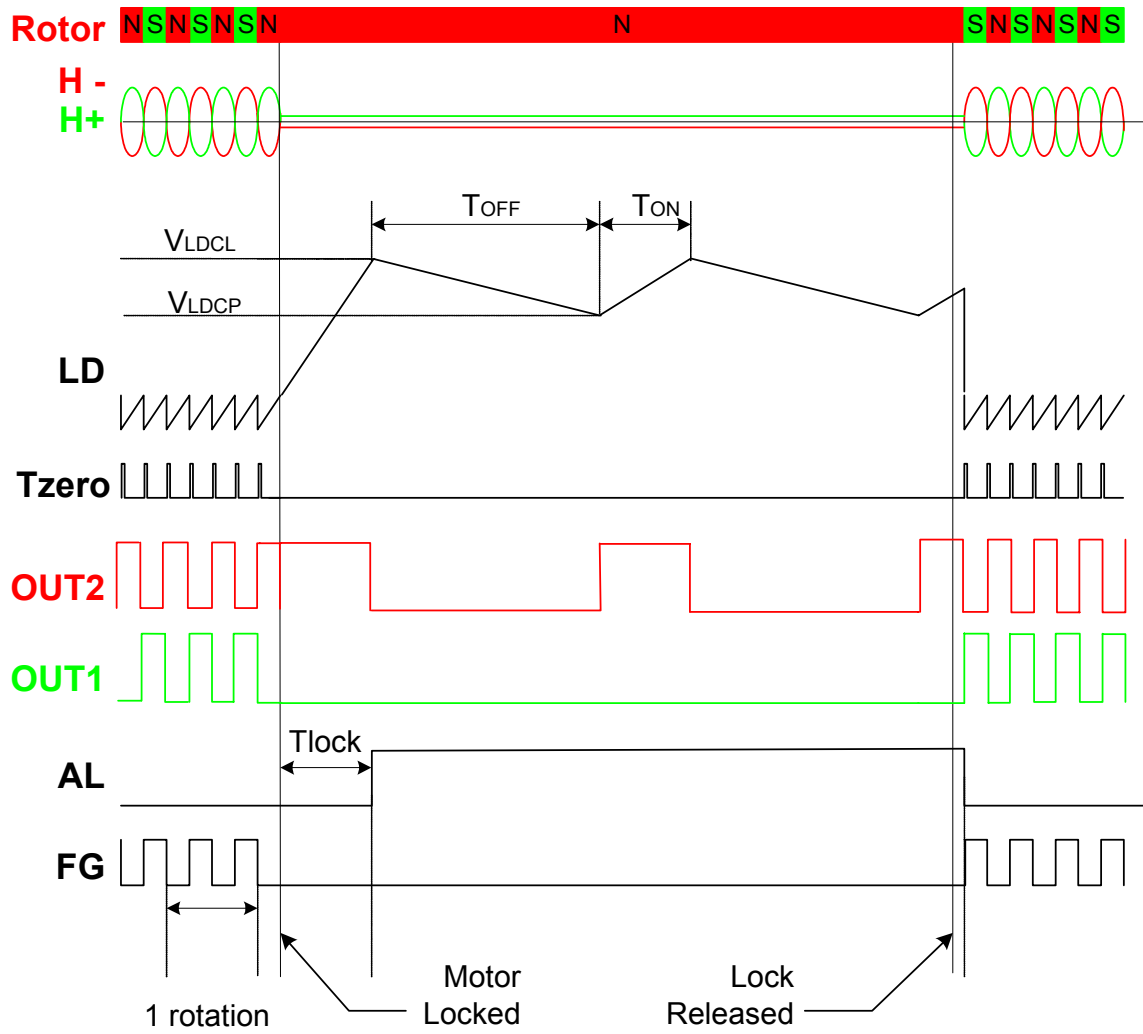

Figure 1. Overall Timing Chart
When the rotor is locked, there is no change in input signal of hall amplifier and thus a internal TZERO pulse is not observed. A capacitor(CLD) connected LD pin is continually charged by internal current source(ILDC) to internal threshold (VLDCL) resulting from no Tzero pulse. When the voltage, VCLD on LD pin, reaches VLDCL, high side output power TR is turned-off to protect motor during TOFF and the alarm output (AL) becomes floating high. When the VCLD reaches upper threshold, VLDCL, VCLD starts to decrease with internal current sink(ILDD) to the low threshold, VLDCP. At that time, the VCLD ramps up again and one of two outputs is turned on depending on locked rotor position during TON. The charging and discharging repeat until locked condition is removed, or FAN8461G is powered down. The overall time chart is shown in figure.1. The auto- retry time(TON), the motor protection time(TOFF), the locked rotor detection time(TLOCK) are proportional to external capacitor, CLD and each value can be calculated as follows;